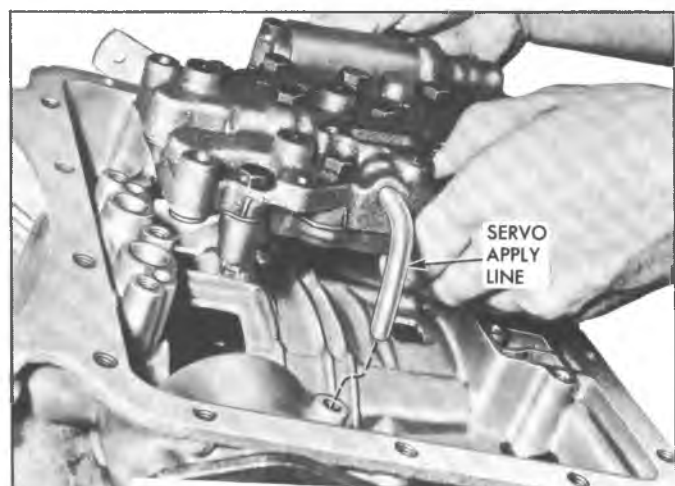

Fig. 33PG--Installing Valve Body
29. With transmission upside down, and manual linkage installed as previously described, and the selector lever detent roller installed, install the valve body (servo apply tube installed) and a new gasket. Carefully guide the servo apply line into its boss in the case as the valve body is set into place (fig. 33PG). Install six mounting bolts and range selector detent roller spring shown in Figure 11PG.